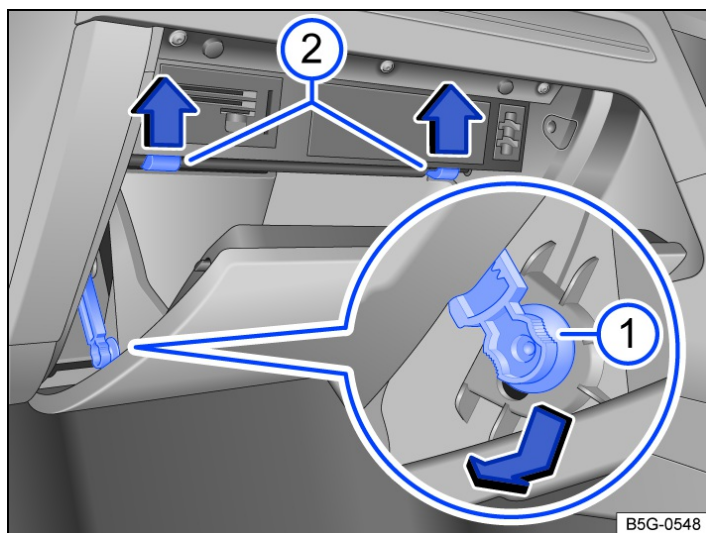

Fig. 2 Right-hand drive vehicles: the fuse box in the instrument panel is on the passenger's side.
1. Open the glove box, and empty it if necessary → *fig. 2*.
2. Push the damper element downwards into the bracket opening and pull out sideways → *fig. 2* ①.
3. Push the catches up in the direction of the arrow while at the same time opening the storage compartment further → *fig. 2* ②.
1. Move the storage compartment into position → *fig. 2*.
2. Insert the damper element into the opening on the bracket and push upwards until you hear it engage → *fig. 2* ①.
3. Push the storage compartment carefully forwards past the resistance of the stop pin → *fig. 2* ②.